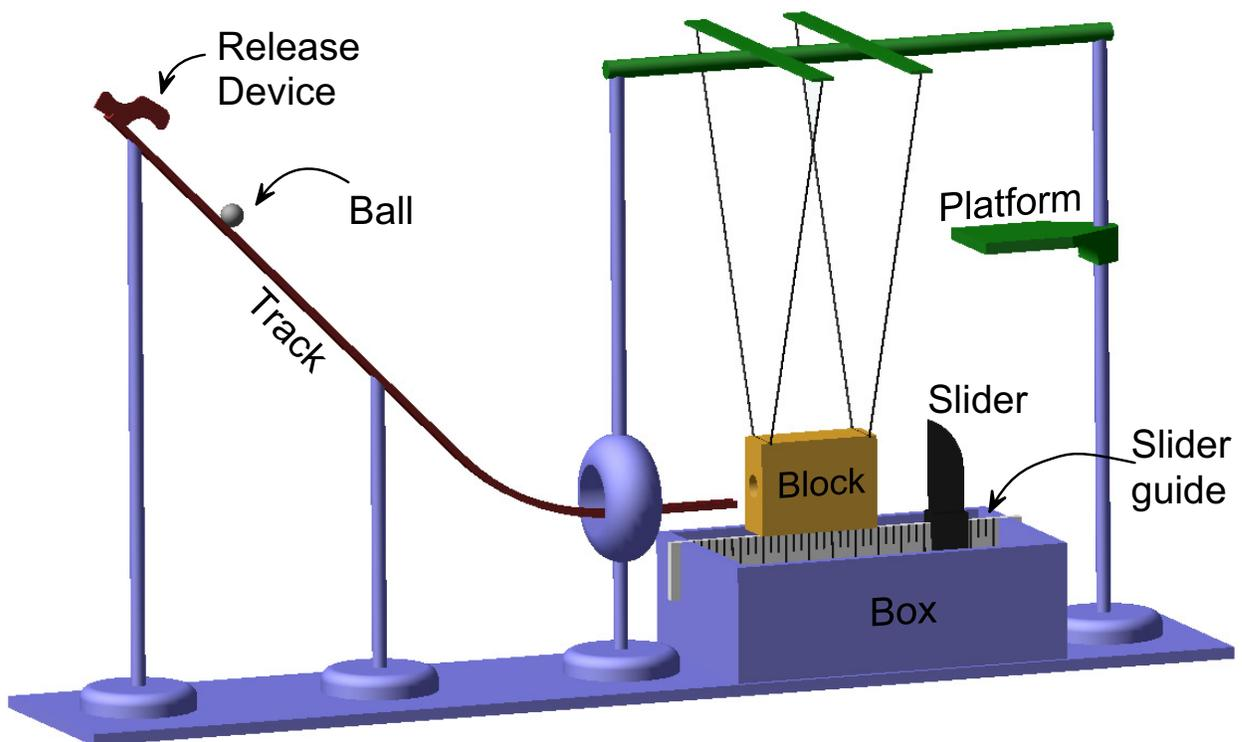

Figure 1: Entire Apparatus.
1. The equipment shown in Figure 1.
Mount the slider guide and slider in the box. Suspend the block as indicated in Figure 1 at the appropriate level such that the faces of the block are parallel to the corresponding faces of the box. The block should hang freely, with a gap of about 1/8 inch between it and the track. The block must be perfectly still while awaiting the arrival of the sphere.